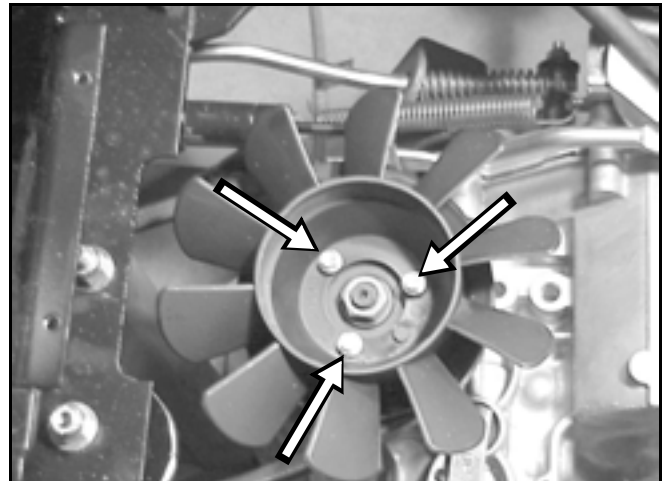

Figure 135
6. Install the three bolts to secure the transaxle cooling fan to the transaxle pulley (Figure 135).